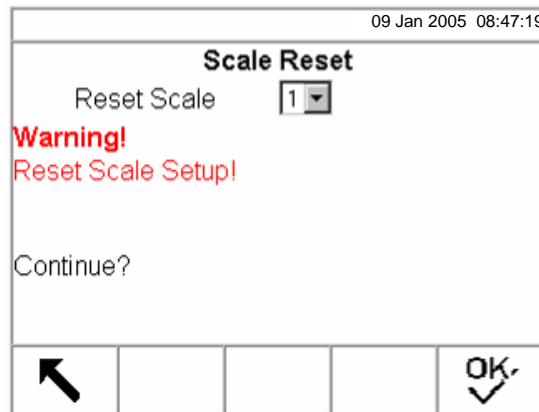

Figure 3-14: Scale Reset Screen
5. Press the ENTER key to open the Scale Reset screen (see Figure 3-14).